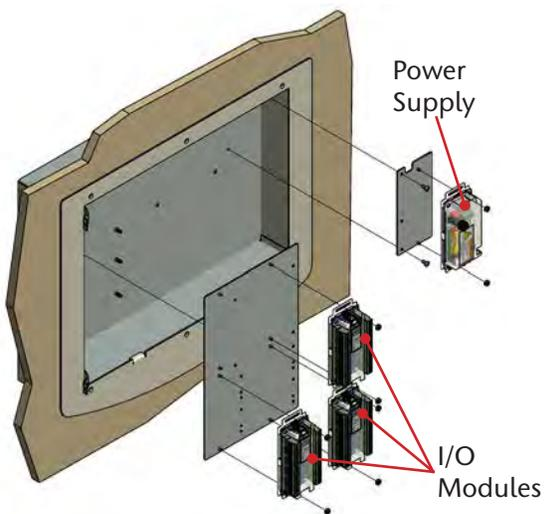

Figure 127: MEGA3™ Double Adaptor Bracket Mounting
9. Snap the I/O module adapter bracket (large bracket included with kit 4107220616) onto the standoffs at the rear of the rough-in box (Figure 127).